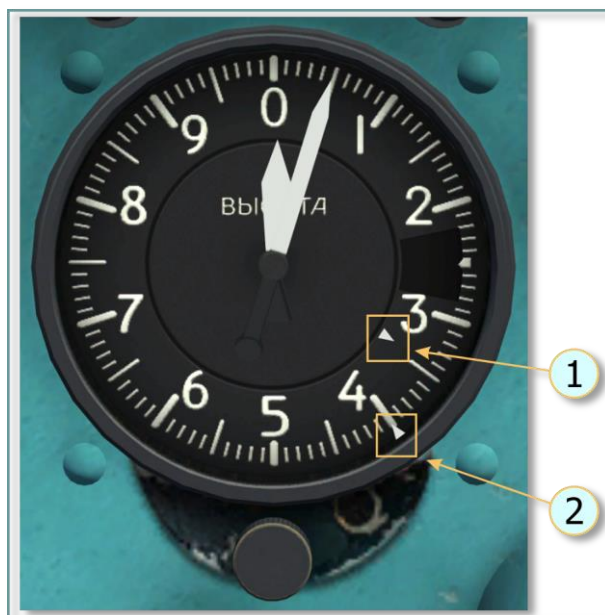

Fig. 5.42. Setting helipad altitude using adjustment knob
The pressure altimeter adjustment knob is used to set the arrows to 0 altitude and adjust the reference barometric pressure. Turning the knob also moves the two triangular indexes around the altitude scale, one around the outside scale and one around the inside scale. The indexes are used to set the altitude difference for a landing point located at a higher elevation than the takeoff airfield in case the actual pressure at the landing field is unknown. Fig. 5.42 shows an example, the setting helipad altitude 3.400m using a adjustment knob (triangular indices (1) and (2) set on 3400 m altitude). The arrows indicates the barometric altitude regarding this helipad (50 m).